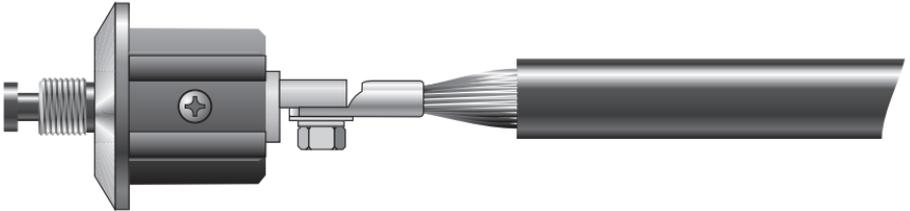

Figure 26.
6. Connect the crimp lug to the Stormaster mast base assembly using the bolt and washers as supplied with the assembly. Ensure the connection is aligned correctly and tightly secured using a 17 mm spanner, socket or shifting spanner. Note orientation of lug on lower finial connector (Figure 26).